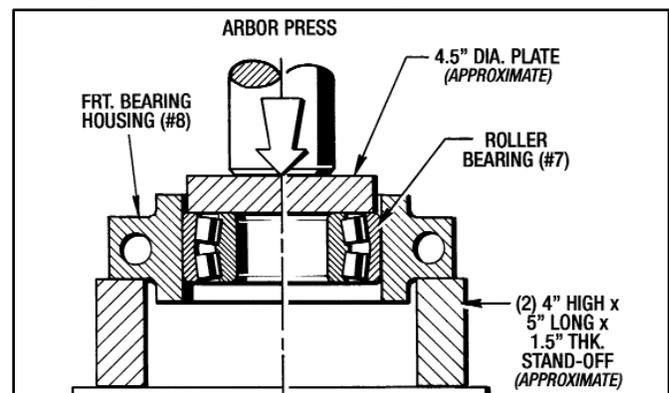
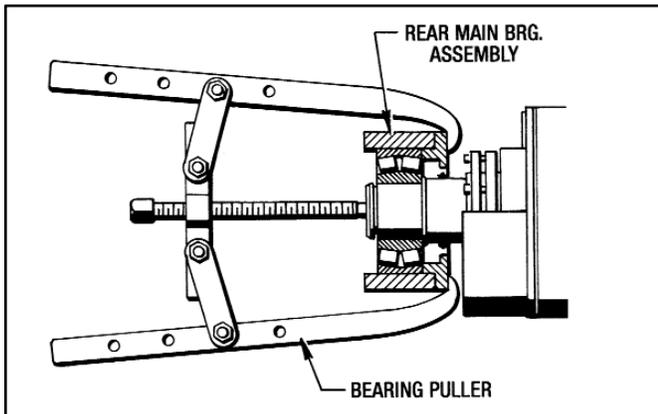

Figure 6.2 - Removing Roller Bearing (#7)
Figure 6.3 - Removing Rear Main Bearing
- Press the Roller Bearing (#7) out of the Bearing Housing (#8) with an Arbor Press as shown in Figure 6.2.
- Take the (4) Screws (#3) and (4) Lockwashers (#4) out and remove the End Bearing Closure (#6) from the Bearing Housing (#8).
- Attach a standard Bearing Puller and pull the whole Rear Bearing off the Vibrator Shaft (#1) as shown in Figure 6.3.
- Press the Roller Bearing out of the Rear Bearing Housing (#8) with the same procedure as shown in Figure 6.2.